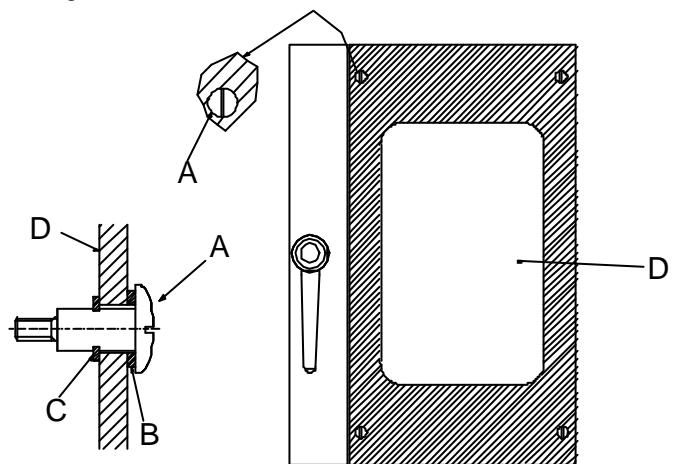

Figure 5b
- Should it become necessary to replace the **outer** door glass, unscrew the four screws (item A fig. 5b), remove the Seger ring from its seat and take the screws away from the holes in the glass. Now, you can replace it. To secure the spare door glass you should reverse the above procedure, i.e.: introduce the screws in the appropriate holes (making sure that the gaskets (item B fig. 5b) are in place), apply the Seger rings (item C fig. 5b) and lastly secure the glass to the door.